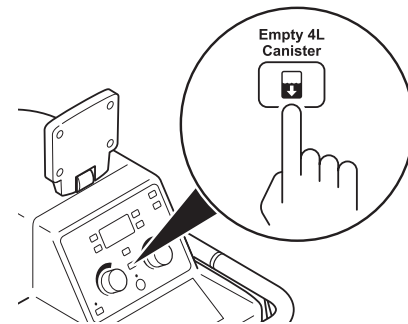

Figure 30 To Empty 4-Liter Canister
- a. If the 4-liter canister is full, push the EMPTY 4L CANISTER button on the control panel (Figure 30).